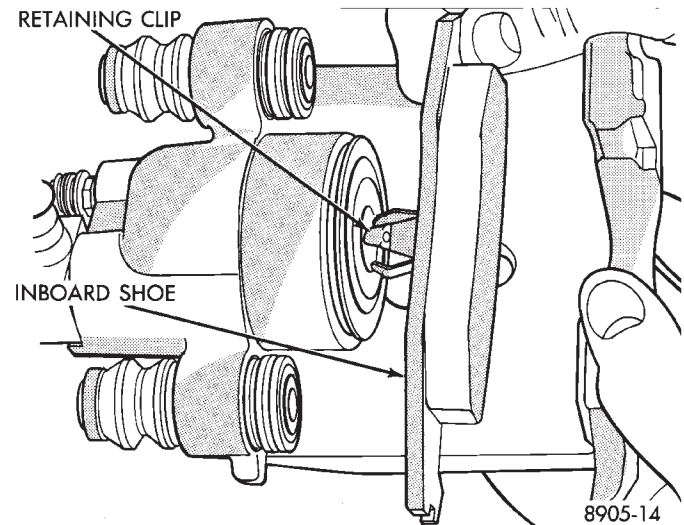

Fig. 6 Installing Inboard Shoe
(1) Retract piston.
(2) Install inboard brake shoe by inserting shoe retaining clip into piston cavity. Be sure brake shoe is seated squarely on the face of the piston. (Fig. 6).